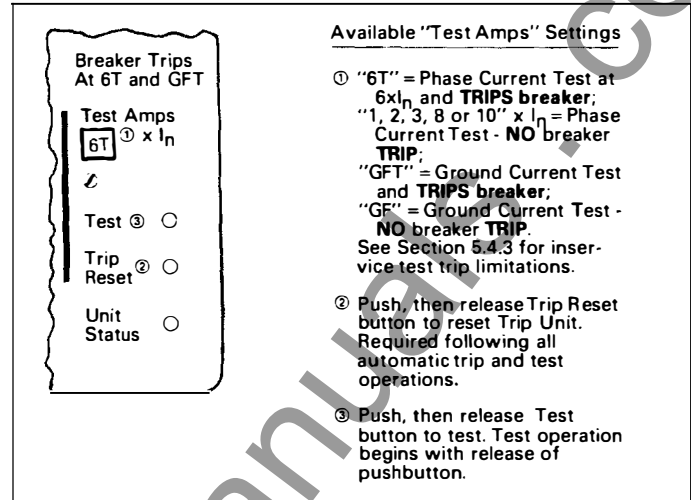

Fig. 5 Integral Test Panel (Lower Right Corner of Trip Unit)
As indicated in Fig. 5, six different “Test Amps” settings (1, 2, 3, 6T, 8 and 10X I_n) are available for testing the phase elements of the trip unit, and two (GF, GFT) are provided for testing the ground elements.
1. Place the "Test Amps" selector switch (See Fig. 5) in one of the six "No Trip" test settings, i.e., 1, 2, 3, 8, or 10, $x I_n$, or GF.
2. Place the "Test Amps" selector switch (See Fig. 5) in one of the two "Trip" test settings, i.e., 6T or GFT.
3. Depress the black "Test" pushbutton (See Fig. 5) and release it - the test is initiated when the pushbutton is released.
5. Reset the trip unit by depressing and releasing the "Trip Reset" pushbutton (See Fig. 5). All LEDs lighted by the "Trip" test action should turn "OFF".